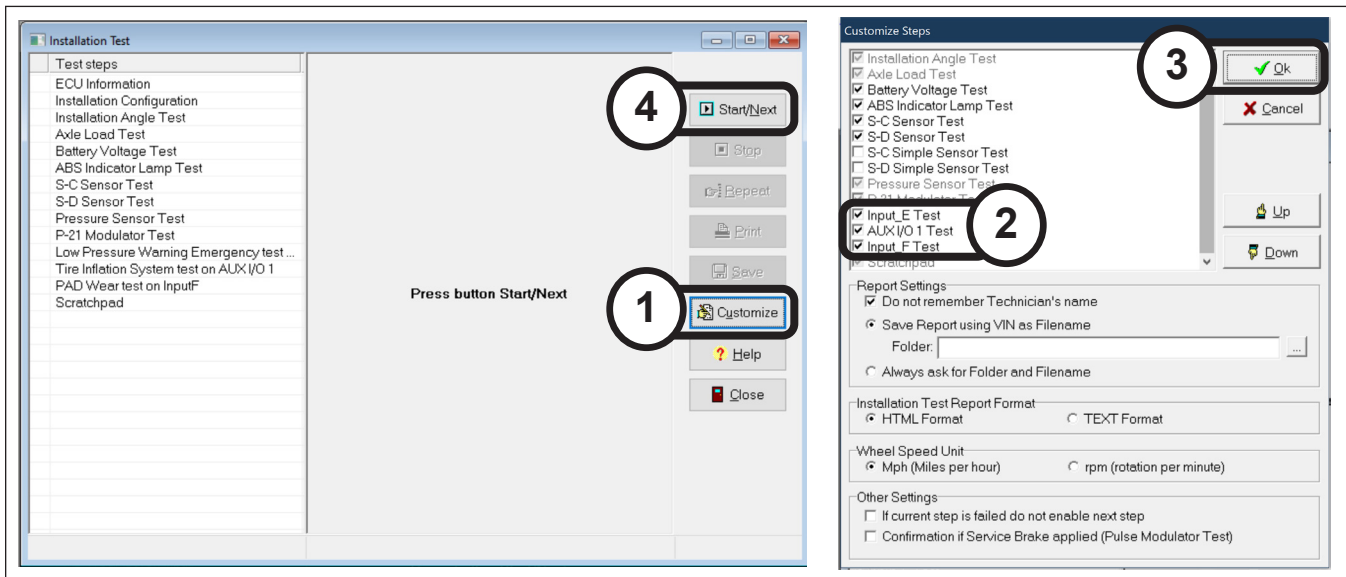

Figure 2 – Installation Test Modifications
After installing the replacement Bendix® TABS-8™ Advanced Electronic Control Unit (ECU), it is necessary to run the installation test in Bendix® ACom® PRO™ Diagnostic Software to ensure the ECU is functioning correctly. Because the three (3) new features were not present on the initial release of the TABS-8 Advanced ECU, they cannot be checked during the installation test; therefore, these features need to be excluded from the installation test steps. See Figure 2 and perform the following procedure: